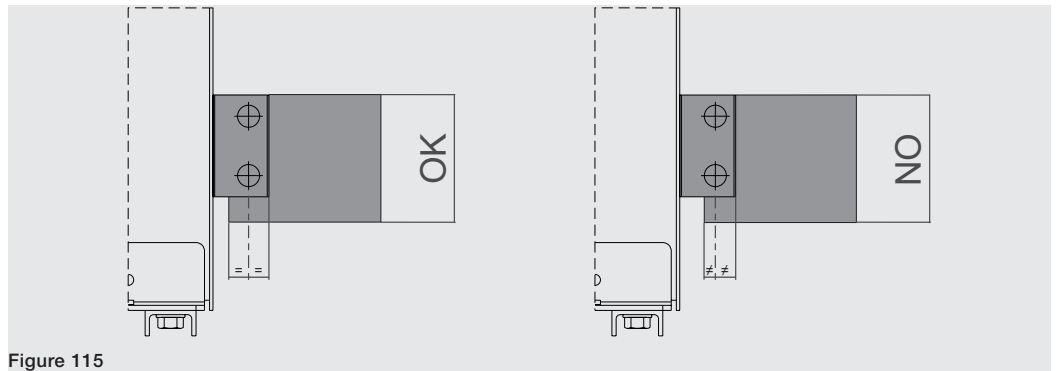

Figure 115
- Make sure that the distance between the holes and the end of the terminal and between the holes and extremity of the busbar is the same. See the example Figure 115.